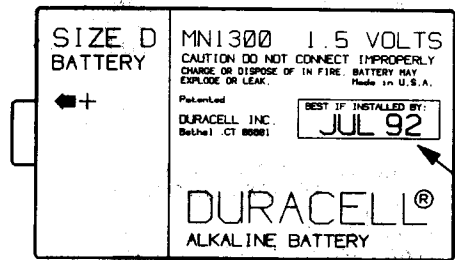
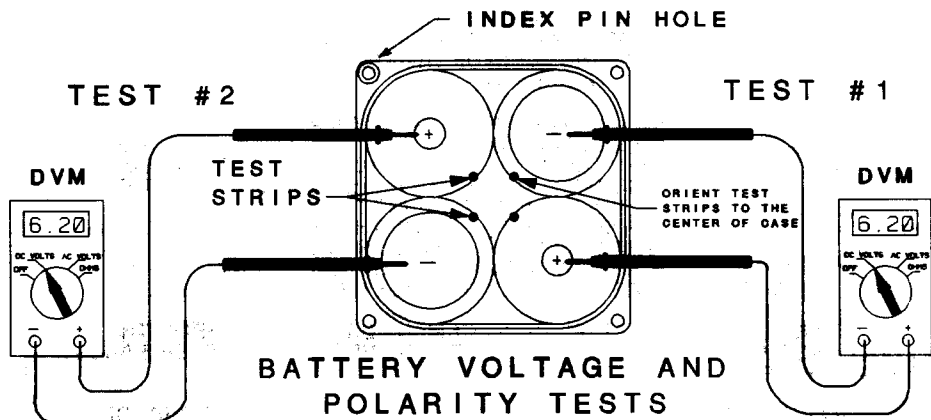

FIGURE 2
FIGURE 3
WHEN INSTALLING DURACELL BATTERIES WITH POWER TEST STRIPS SEE PAGE 2 PARAGRAPH 3 AND FIG. 3 THE BOTTOM BATTERIES ARE DESIGNED TO BE A TIGHT FIT IN THE CASE. APPLY A LIGHT COAT OF AUTOMOTIVE PASTE WAX TO THE CELLS TO FACILITATE INSTALLATION. PLACE ALL FOUR LOWER CELLS IN THEIR PROPER POSITION AT THE TOP OF THE CASE AND PUSH INTO POSITION ALL AT THE SAME TIME.
3. RECORD THE BATTERY REPLACEMENT DATE OF THE NEW CELLS BEING INSTALLED USING ONE OF THE ADHESIVE LABELS PROVIDED WITH THE ELT. THE BATTERY REPLACEMENT DATE IS FOUND ON EACH DURACELL® MN1300 CELL. (FIGURE 2) IT READS AS FOLLOWS; "BEST IF INSTALLED BY (DATE)". THE "(DATE)" INDICATED IS THE DATE BY WHICH THE BATTERIES MUST BE REPLACED. **ALL CELLS MUST HAVE THE SAME DATE.** INSTALL THE NEW BATTERIES AS INDICATED BY THE BATTERY INSTALLATION PLACARDS WHICH ARE AFFIXED TO THE INSIDE OF THE BATTERY CASE. IMPORTANT WHEN INSTALLING THE NEW STYLE DURACELL BATTERIES WHICH HAVE A BUILT IN TEST STRIP ON THE SIDE OF THE CELL, THESE TEST STRIPS MUST BE ORIENTED SO THAT THE TEST STRIP DOES NOT CONTACT THE PLASTIC CASE OR ANY OTHER CELL (SEE FIGURE 3)
4. AFTER INSTALLATION A VOLTAGE AND POLARITY CHECK MUST BE PERFORMED TO INSURE THAT THE BATTERIES HAVE BEEN INSTALLED CORRECTLY. (FIGURE 3)